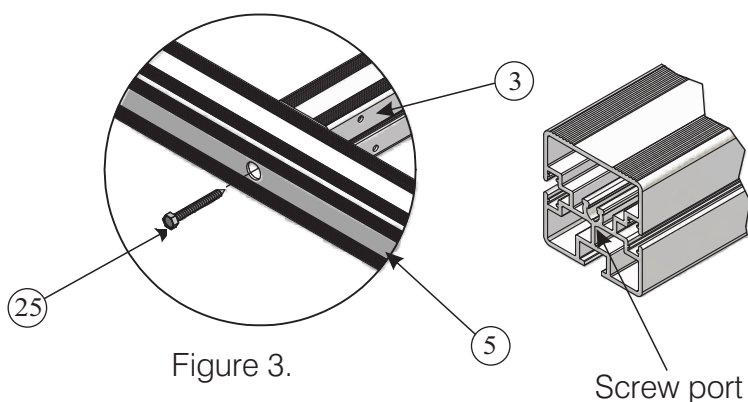

Figure 3.
2.) Attach the bent supports (3) to the backbar by using BOL771 (25). Locate the holes in the underside of the backbar and line up the screw port within the extrusion of the supports. With 1-2 people holding the bent supports in position the other person can screw the self tapping bolt in place. This will require a 10mm extension tool or the T-Handle nut driver (30) supplied with the shelter. Make sure when doing so that the bolt is straight as this is cutting the thread at the same time. This is made easier by ensuring the bent support is square with the backbar (See Figure 3).